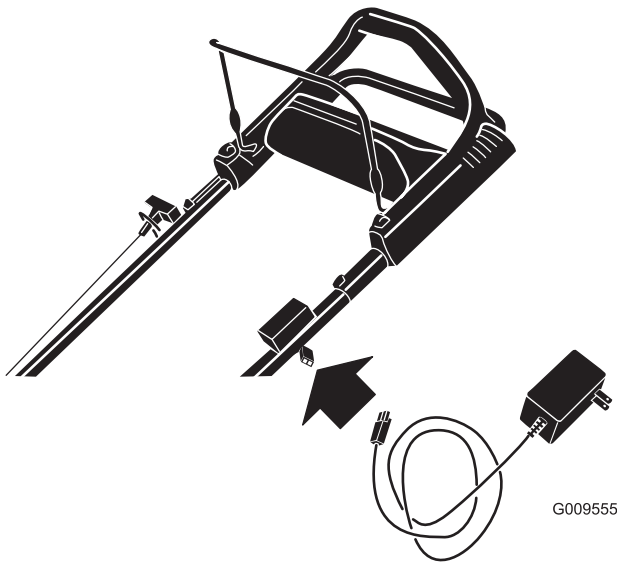

Figure 23
1. Connect the charger to the machine wire harness located below the ignition key (Figure 23).